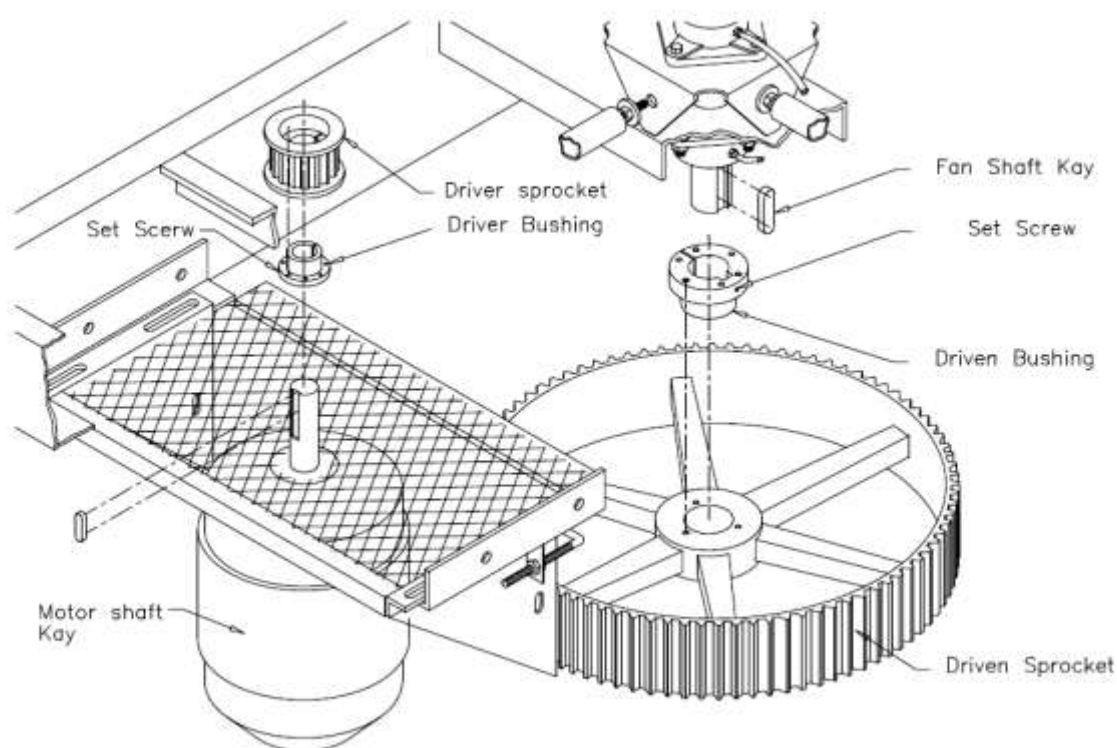

FIG. E2 — BUSHING AND SPROCKETS
3. Install either sprocket bushings (or sheave bushing, as required), with keys, onto shafts and tighten set screws over keys. See Fig. E2. See "DRIVE ASSEMBLY" section of the Parts List to set vertical location of large sprocket bushing.